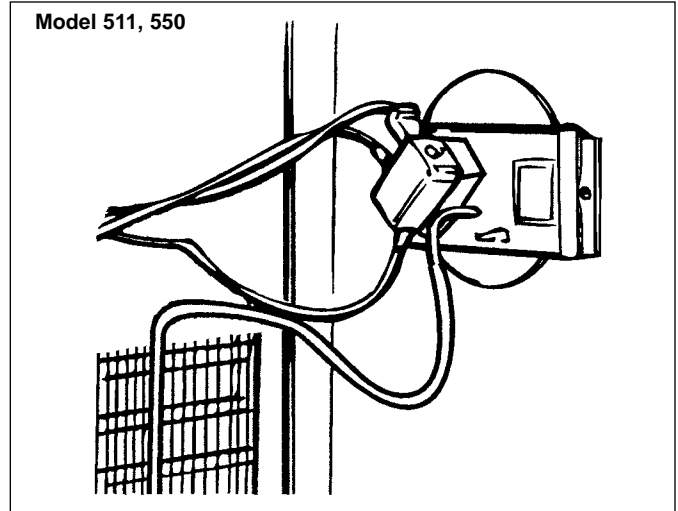

Figure 2-57. Refrigerator Control Routing
4. **Refrigerator Control** - The cap tube of the refrigerator control is routed through a channel formed by the evaporator fins. Pull the control bulb from the channel (Figure 2-57).